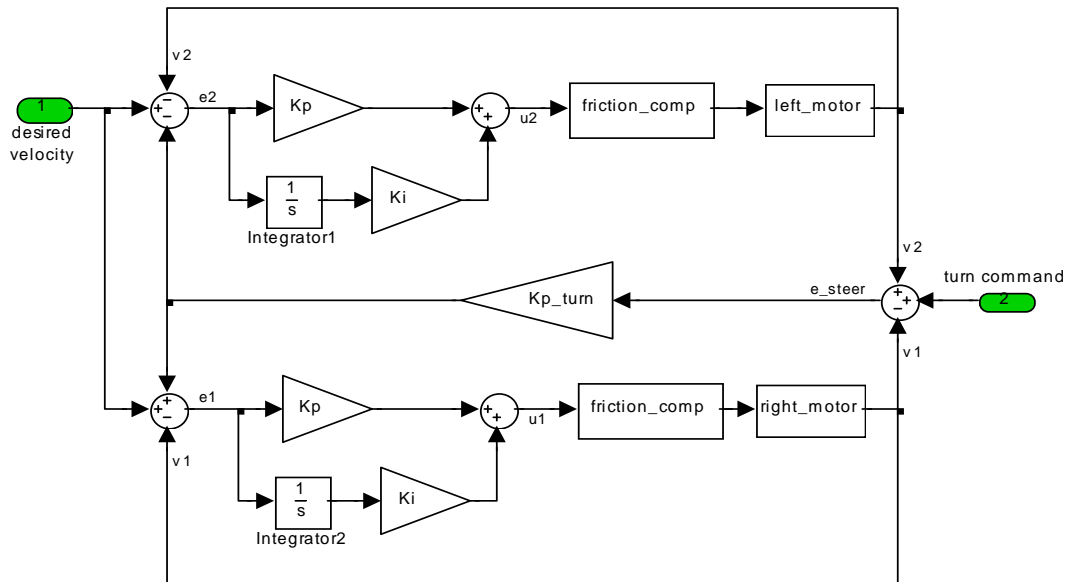

Figure 2: Coupled PI control structure.
Exercise 3: Closed-Loop Robot Driving with Coupled Control Loops (See Figure 2).
4. Add another case statement to see if the third switch is down and all others are up. In this case statement implement the coupled control algorithm shown in figure 2. Also, print a message to the LCD screen like “Coupled PI”. Again, all proportional gains should be approximately 3 and all integral gains should be roughly 5. These are just suggestions... you may modify them if you wish.
8. Add another case statement to see if the forth switch is down and all others are up. In this case statement you will again implement the coupled control algorithm shown in figure 2, but reference velocity should be fixed at 1.0 tiles/second and “turn” updated by the value of optical encoder #3. Also, print a message to the LCD screen like “Coupled PI Turn”.